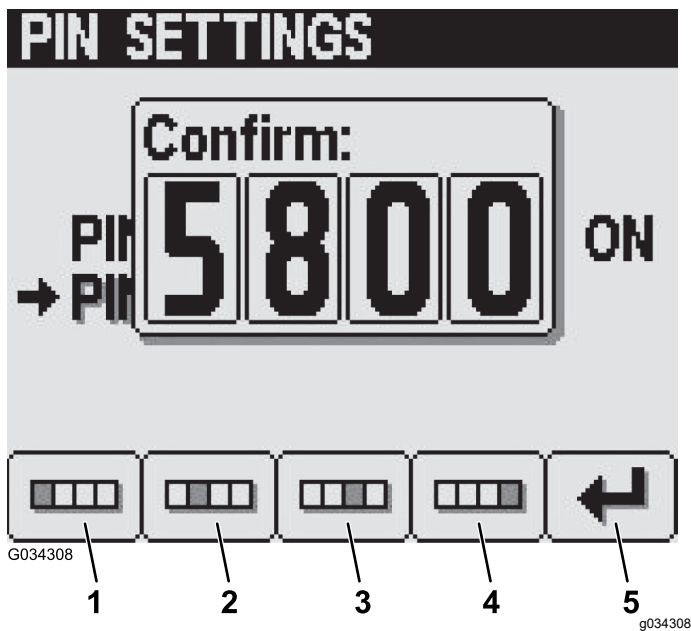

Figure 29
- At the confirm screen, press buttons 1 through 4 to enter your new PIN code. When you complete entering the PIN, press button 5 (Figure 29).
Note: After you confirm the pin code (Figure 29), the Pin Correct screen appears for approximately 5 seconds.